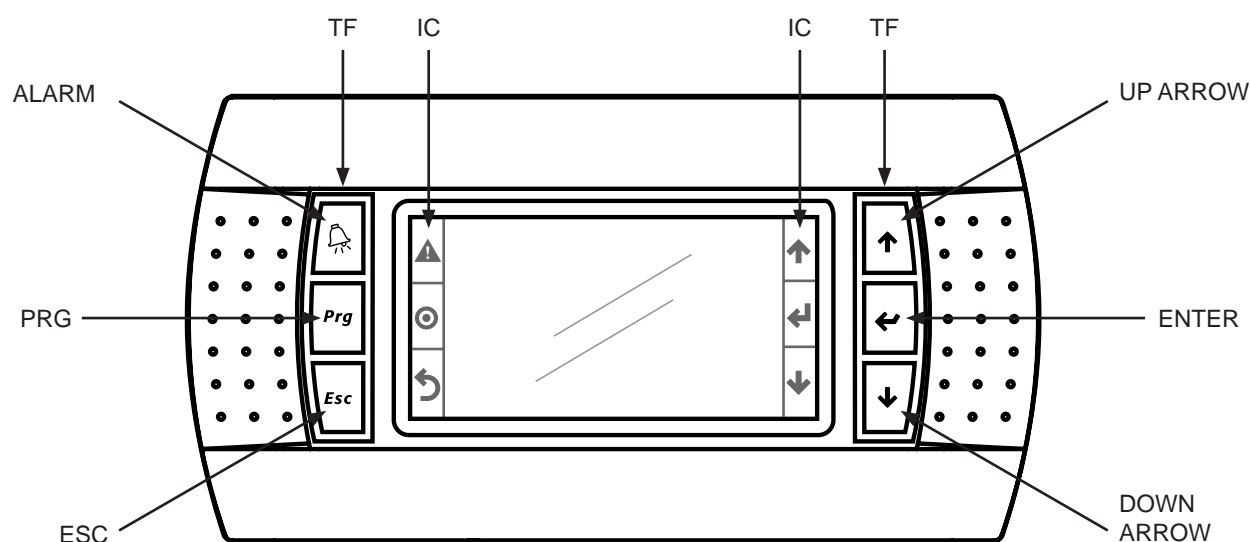

Figure 16
(1) Only compatible with adiabatic models (AVK, AVS, AVW).
(2) Only compatible with chillbooster models. Chillbooster models are not the subject of this manual.
9.10 Remote panel (A2) consists of a central display and 3+3 physical side keys: to the left of the display are the “ALARM”, “PRG”, “ESC” keys, to the right the “UP ARROW”, “ENTER”, “DOWN ARROW” keys. See Figure 16. The function of the physical TF keys is made explicit by the corresponding IC icons on the display.